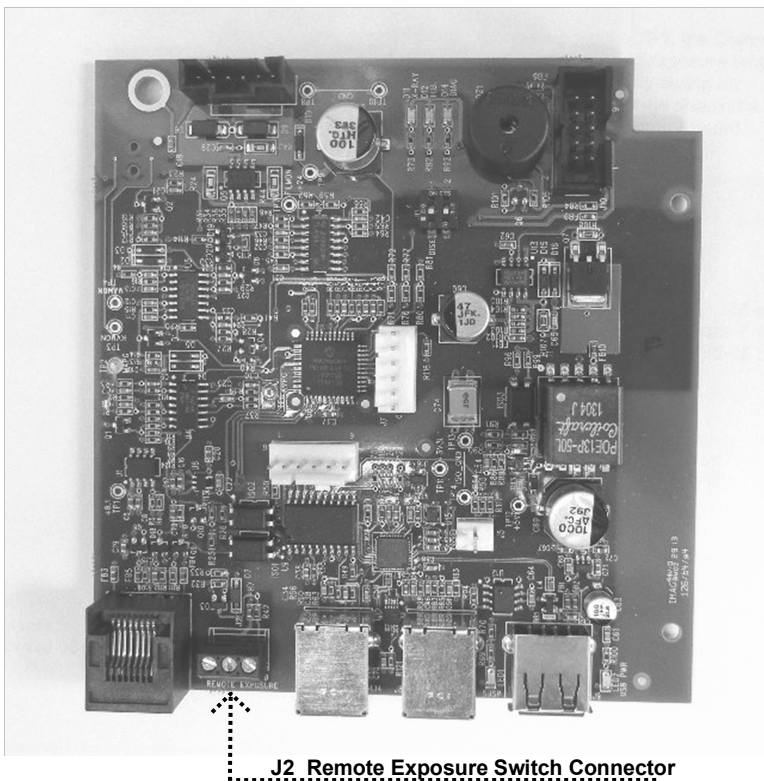

Figure 68
1. If the Operator Panel indicator does not sound, inspect the condition of any remote exposure switches. Substitution is the preferred method to test these switches, although a jumper wire can be applied across the contacts of J3, shown in *Figure 68*, on the Logic Board momentarily to simulate an exposure switch closure.